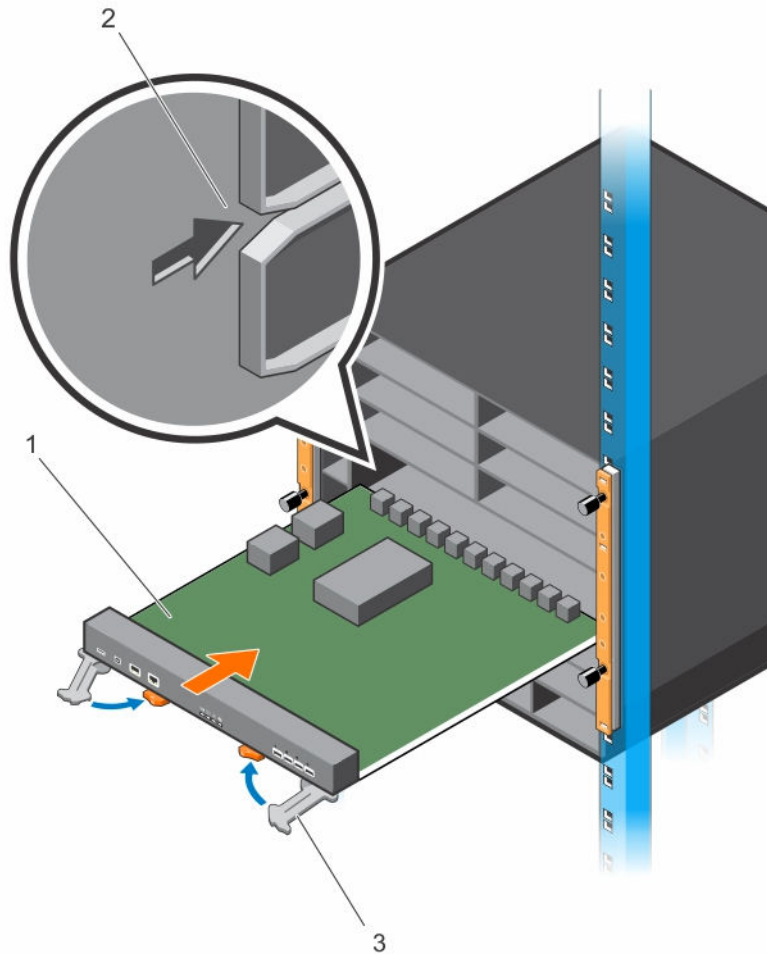

Figure 22. Inserting the First RPM in the Chassis
3. The arrow in slot 10 (item 2 in Figure 22; labelled R0 on the chassis) identifies the slot in which you insert the first RPM. Align the card with the guide and gently slide it into the slot by holding the two ejector levers in the fully open position and pushing the card forward. You should feel the backplane connectors on the RPM engage with the chassis backplane.
4. Push in the levers (item 3 in Figure 22) until the thumb tabs pop up and the card is fully inserted in the slot. The ejector levers hide under the card.